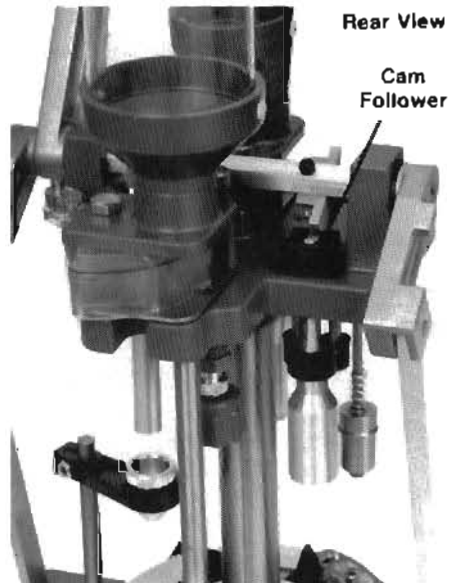

Fig. 54
**Figure 54** - When complete, the cam rides on the steel roller on the block as it cams over. The crimp-die body should freely move up and down, and the plunger should be threaded into the diehead.